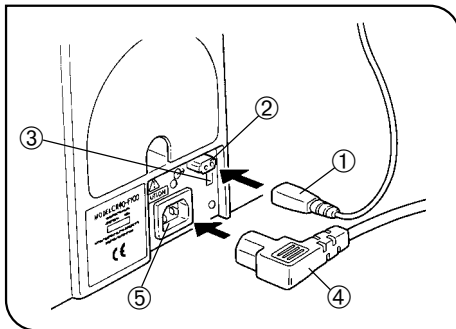

Fig. 15
10 Connecting the Lamp Cord Plug and Power Cord (Figs. 15 & 16)
▲ Make sure the main switch ① is set to “O” (OFF) before connecting the power cord. (Fig. 15)
1. Connect the lamp cord plug ① securely to the connector ② on the rear of the microscope body. (Fig. 15)
3. Insert the power cord plug ④ securely into the connector ⑤. (Fig. 15)